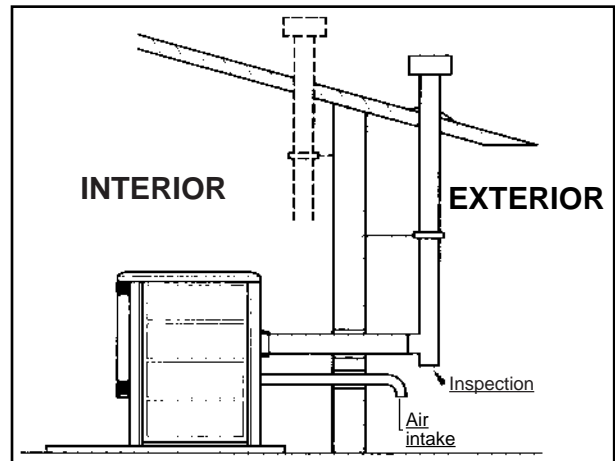

fig. 3
- The Fig. 3 represents the best solution for discharging the fumes above the roof. Proceed as in previous chapter with the installation of a T-fitting with an inspection plug. The external or internal flue must be properly fixed and provided with a chimney pot for protection from rain.